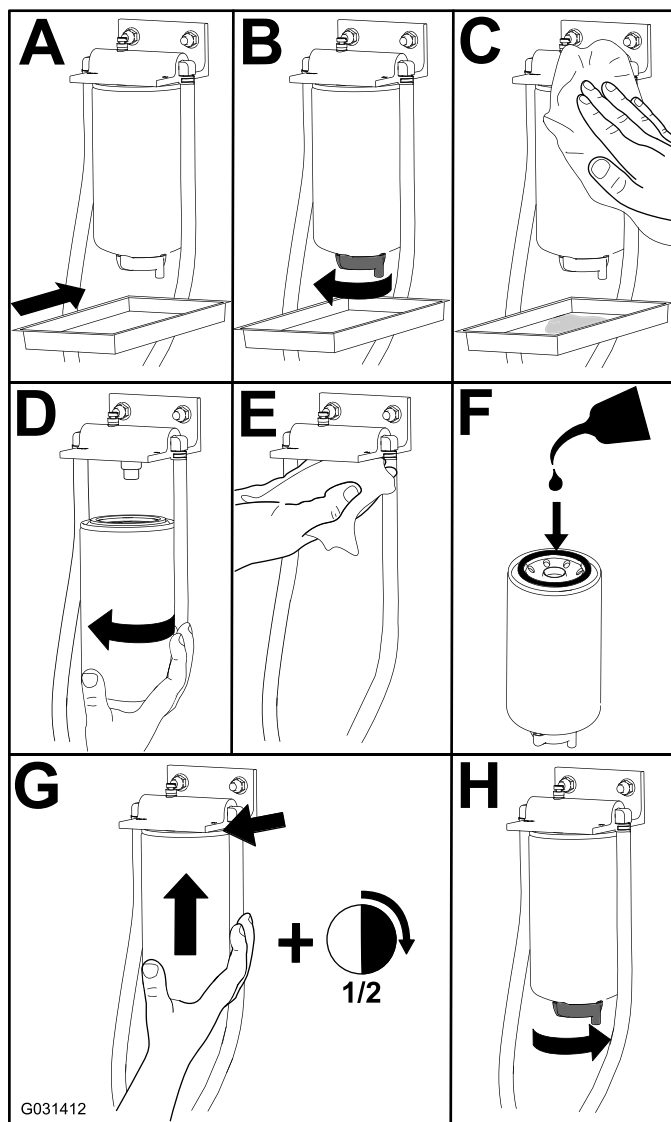

Figure 52
1. Replace the filter as shown in Figure 52.